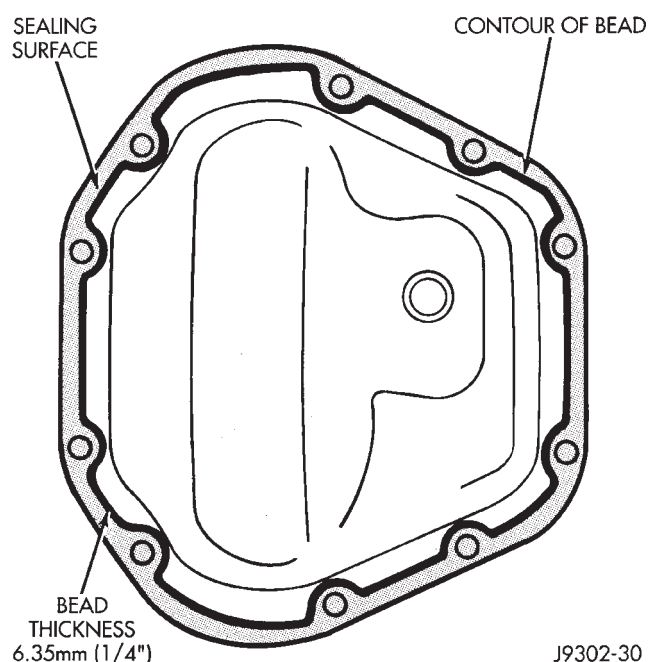

Fig. 6 Typical Housing Cover With Sealant
- (1) Raise and support the vehicle.
- (2) Remove the lubricant fill hole plug from the differential housing cover.
- (3) Remove the differential housing cover and drain the lubricant from the housing.
- (4) Clean the housing cavity with a flushing oil, light engine oil or lint free cloth. **Do not use water, steam, kerosene or gasoline for cleaning.**
- (5) Remove the sealant from the housing and cover surfaces. Use solvent to clean the mating surfaces.
- (6) Apply a bead of Mopar® Silicone Rubber Sealant, or equivalent, to the housing cover (Fig. 6).